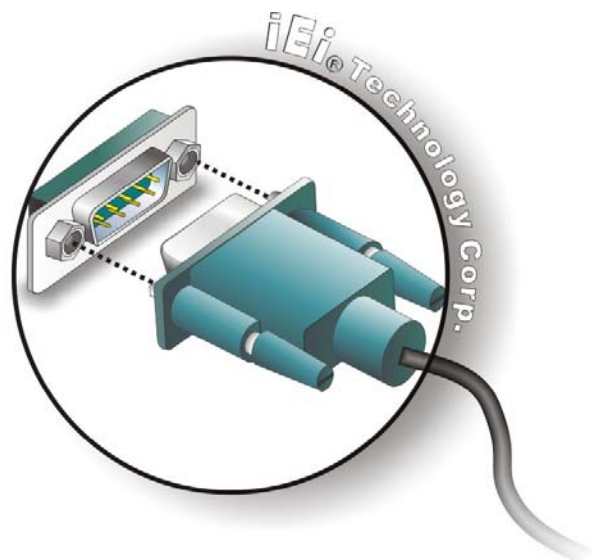

Figure 4-23: Serial Device Connector
Step 2: Insert the serial connector. Insert the DB-9 connector of a serial device into the DB-9 connector on the bottom panel. See **Figure 4-23**.